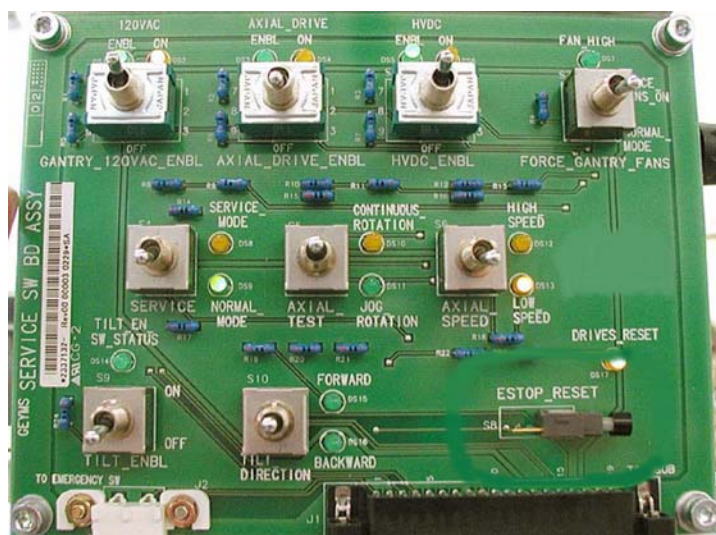

Figure A-5 Service Switch Panel
2.) Turn OFF the three (3) main power switches (HVDC, 120VAC, and Axial Drive) on the Service Switch Panel (SSP) as applicable for the service being performed. See Figure A-5.